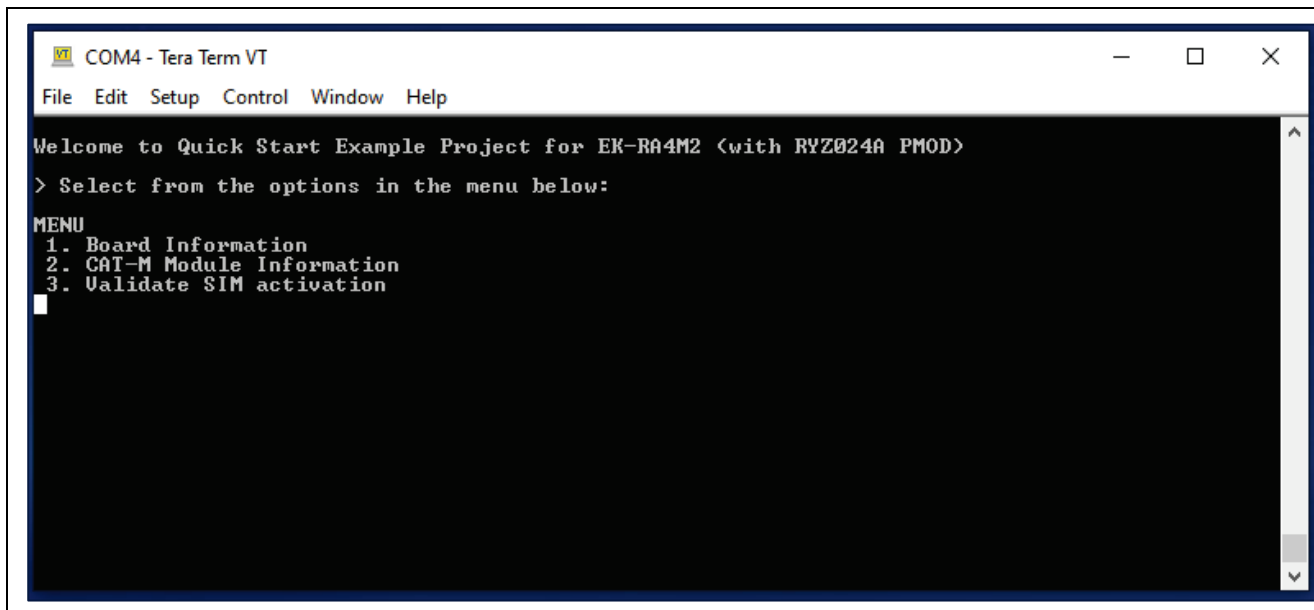

Figure 8. Welcome and Main Menu
4. Complete the connection. The 'Welcome and Main Menu' screen will be displayed as shown in Figure 8.